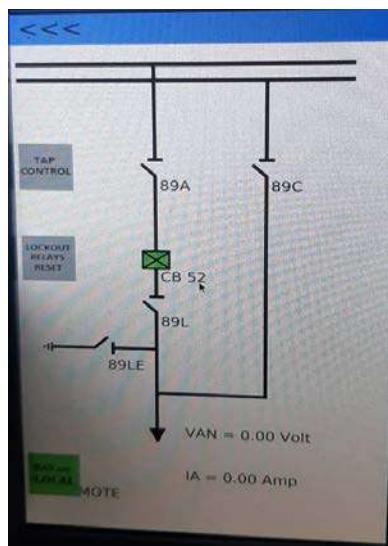

Figure 11
Step 1: Select object you want operate on Graphical display. Once you select object control window will appear as shown in figure 11.